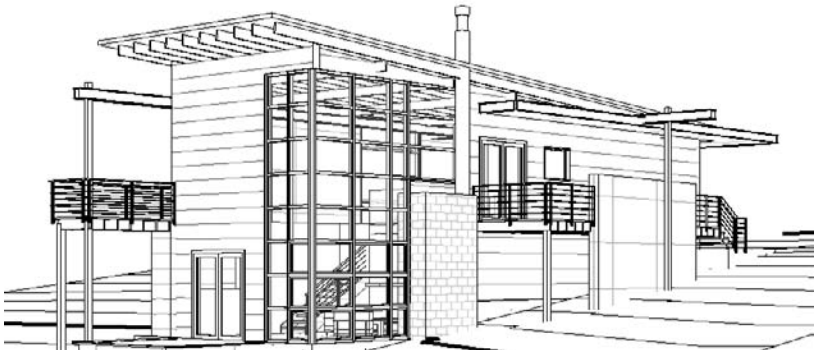

Figure 9.4
7. On the View tab's Graphics panel, click Render. This opens the Rendering dialog box (Figure 9.4). Another way you can start the render process is by clicking the Rendering icon (teapot) on the View Control bar.